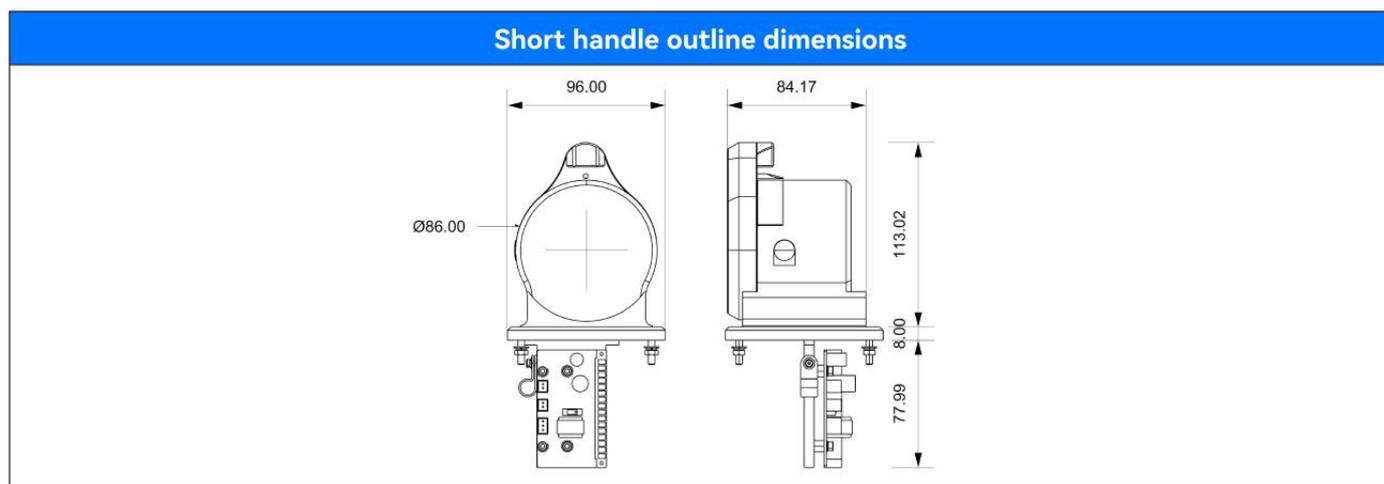

Figure 2.2
1. Short grip: the height of the handle is reduced, and other dimensions are unchanged; The dimensions are shown in Figure 2.2.